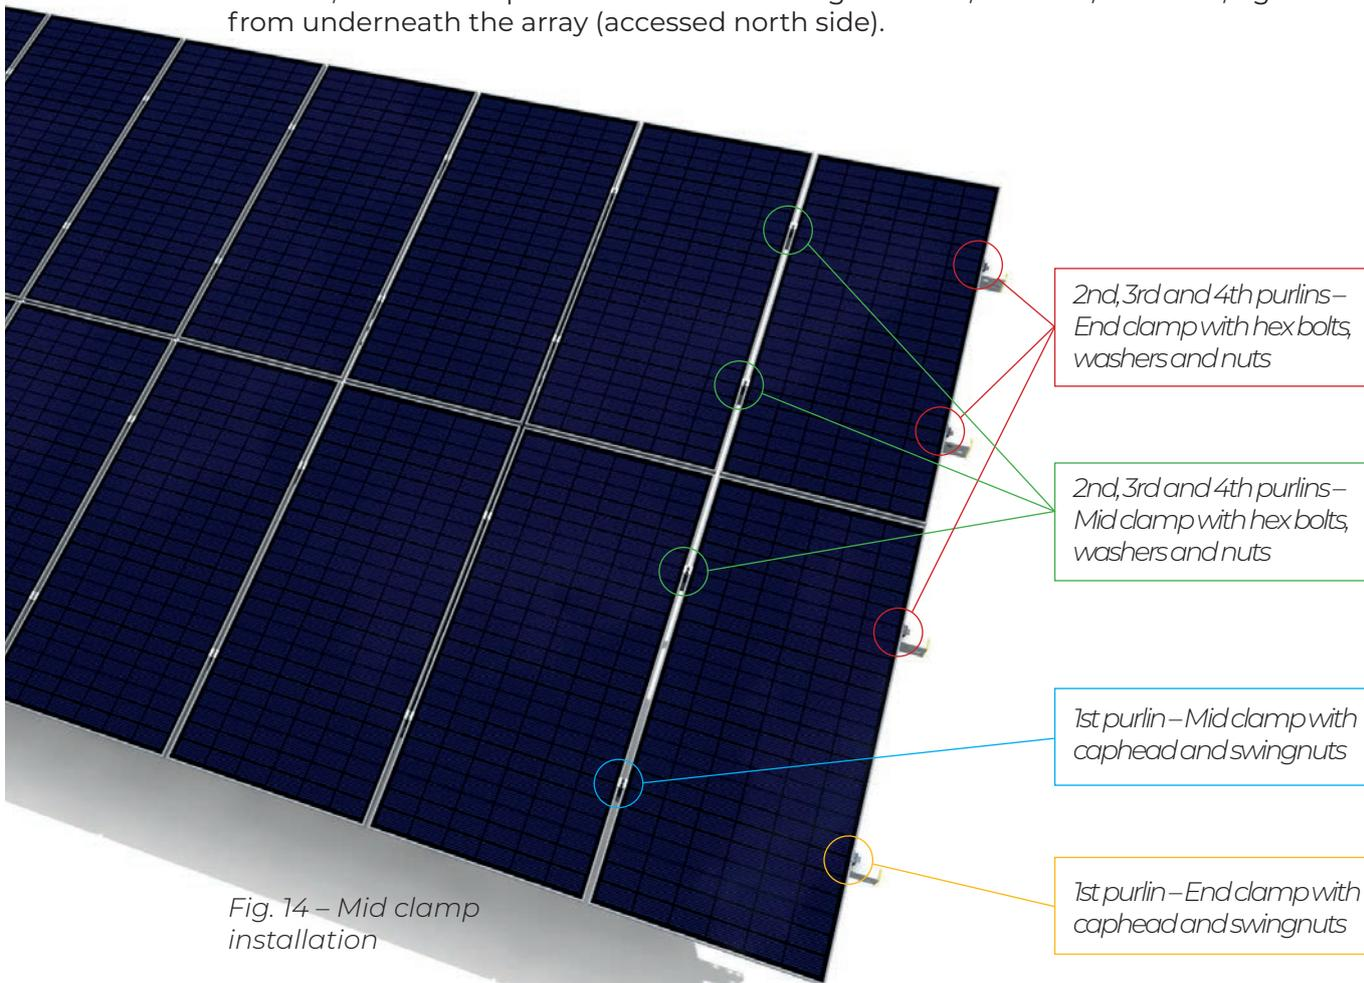

Fig. 14 – Mid clamp installation
c) Position mid-clamps and sliding clamps between panels Bolt to the purlins using M8 cap head bolts [and swing nuts on the 1st purlin, and fix using M8 bolts, washers, and nuts for the 2nd, 3rd and 4th purlins (See Figure 14).